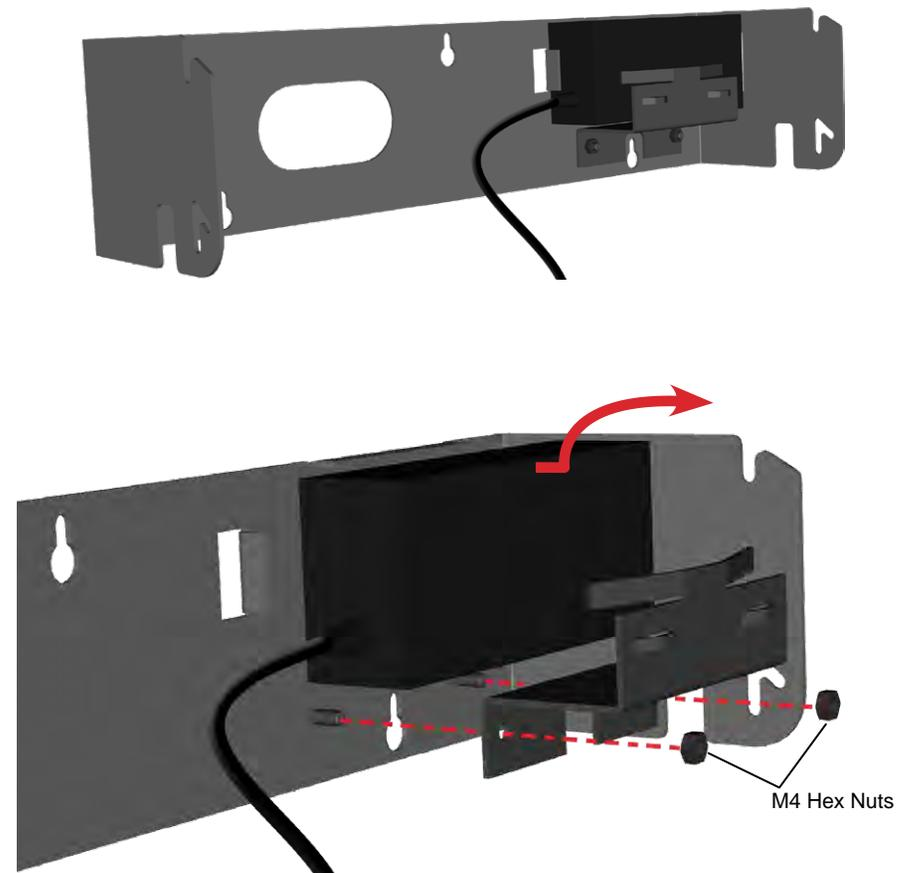

Figure 28. Remove bracket and power supply
2. Disconnect the power supply supporting bracket from the wall mount bracket (Figure 28).